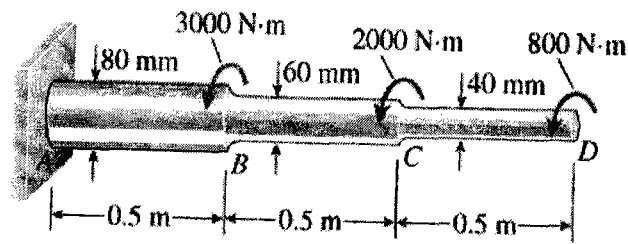

Figure 7 / Rajah 7
- (c) A stepped shaft ABCD consisting of solid circular segments is subjected to three torques as shown in Figure 7. The torques have magnitudes of 3000Nm, 2000Nm, and 800Nm. The length of each segment is 0.5m and diameters of the segment AB, BC and CD are 80mm, 60mm, and 40mm, respectively. The material is steel with shear modulus of elasticity $G = 80\text{GPa}$.